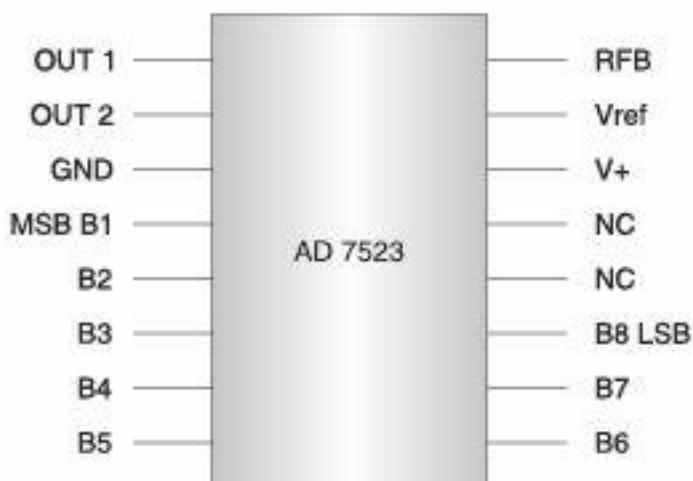

Fig. 5.69 Pin Diagram of AD7523.
**AD7523 8-bit Multiplying DAC:** This is a 16-pin DIP, multiplying digital to analog converter, containing R-2R ladder for D-A conversion along with single pole double throw NMOS switches to connect the digital inputs to the ladder. The pin diagram of AD7523 is shown in Figure 5.69.